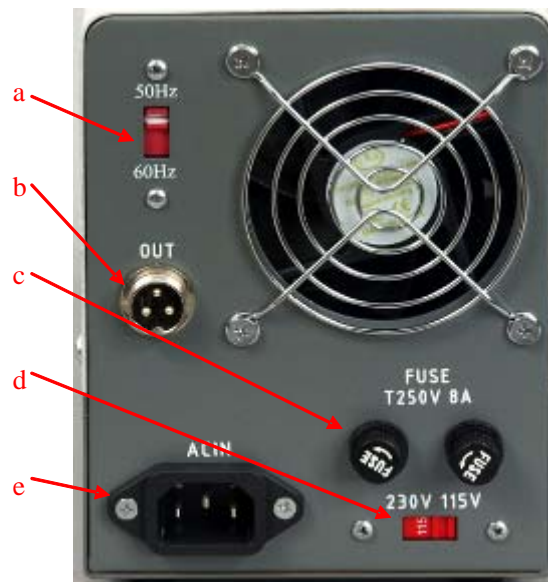

Fig. 8
Before connect the cord to the power outlet, make sure the voltage switch (d) in Fig.8 is slide to the correct position for the right voltage.
**2.11 Replacing the fuse of fluorescence power supply (Fig.8)**
- 2) Turn the fuse holders (c) in Fig.8 out.